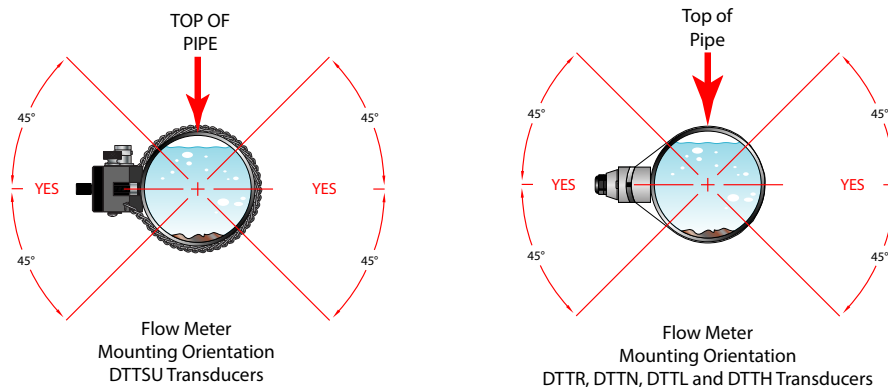

Figure 18: Transducer orientation for horizontal pipes
2. Orient and space the transducers on the pipe to provide optimum reliability and performance. On horizontal pipes, when Z-Mount is required, mount the transducers 180 radial degrees from one another and at least 45 degrees from the top-dead-center and bottom-dead-center of the pipe. See *Figure 18 on page 20*. Also see “Z-Mount Installation” on *page 23*. On vertical pipes, the orientation is not critical.
3. Crease the paper at the fold line. Mark the crease. Place a mark on the pipe where one of the transducers will be located. See *Figure 18* for acceptable radial orientations. Wrap the template back around the pipe, placing the beginning of the paper and one corner in the location of the mark. Move to the other side of the pipe and mark the pipe at the ends of the crease. Measure from the end of the crease (directly across the pipe from the first transducer location) the dimension derived in “*Select a Mounting Configuration*” on page 19. Mark this location on the pipe.